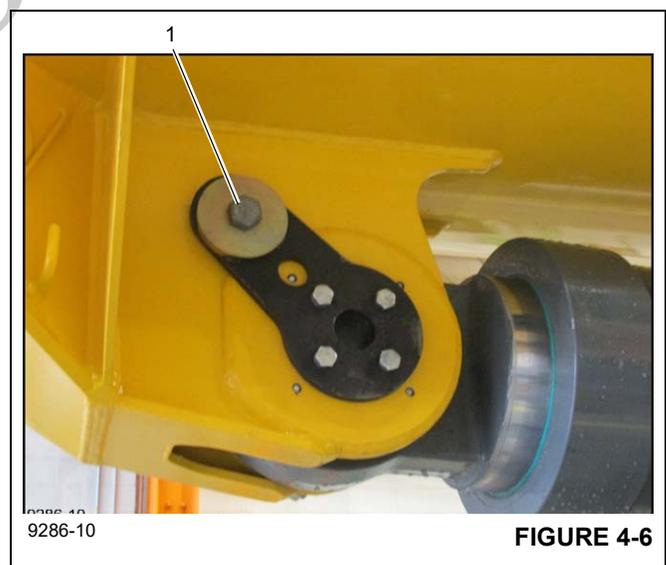

FIGURE 4-6
13. Remove the bolt that secures the pin (1), (Figure 4-6).